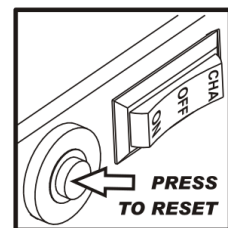

Fig.14
- Press the CIRCUIT BREAKER Button to reset it. (Fig. 14)